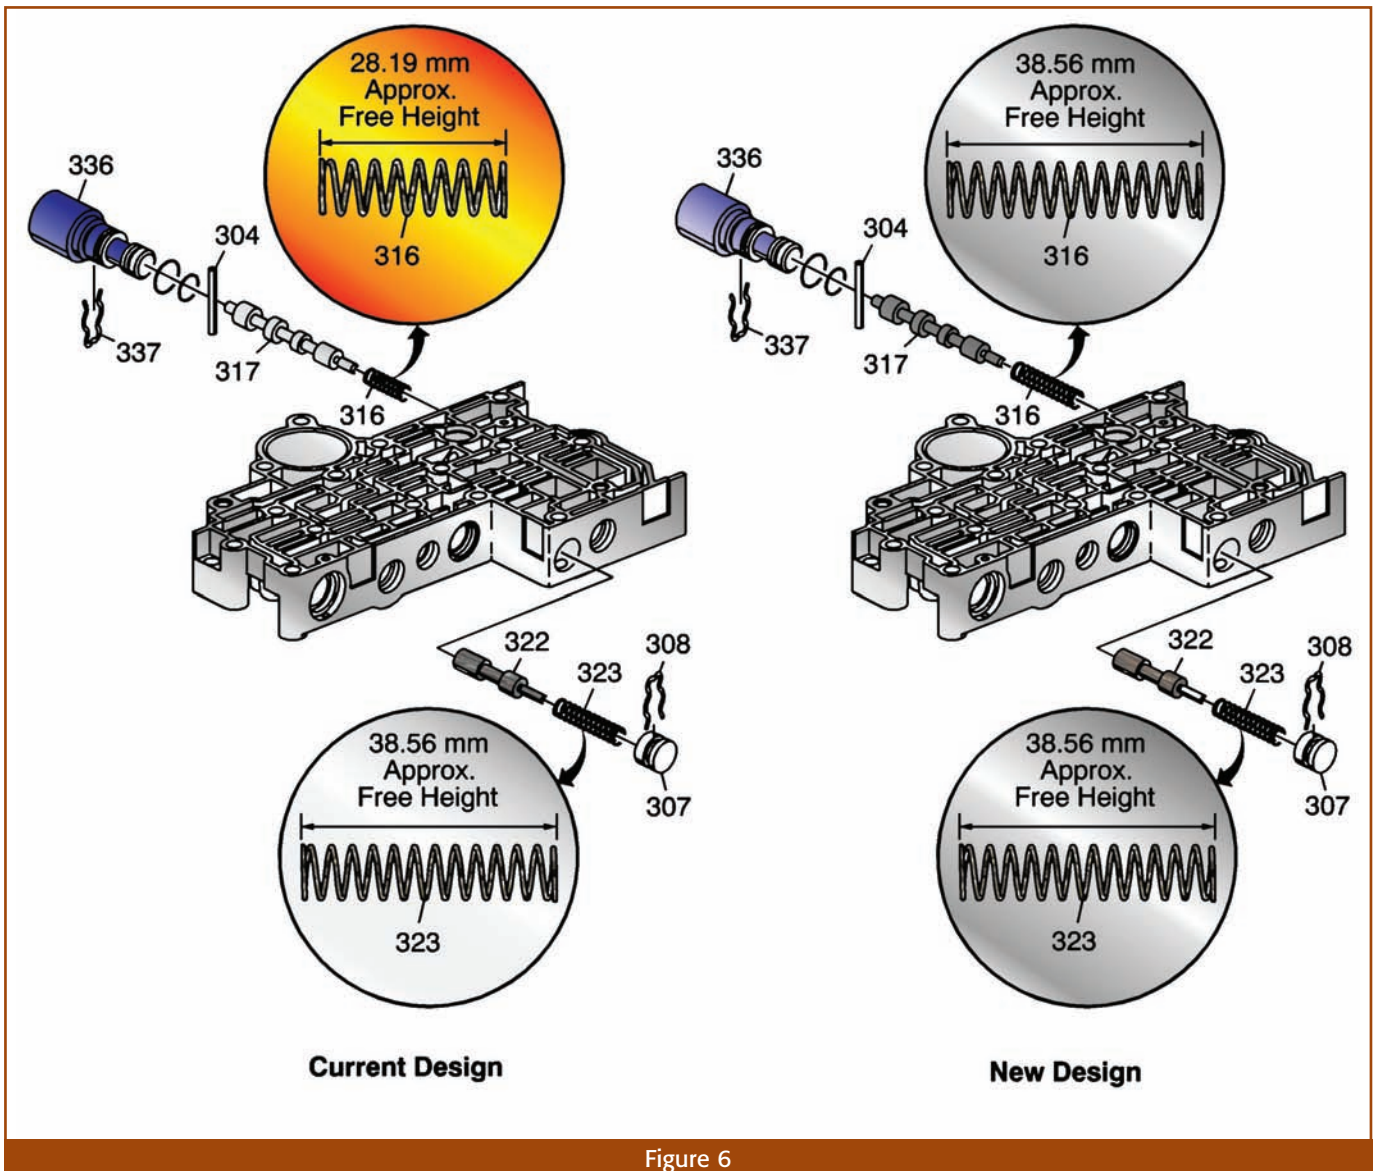

Figure 6
- A new converter clutch control valve spring and TCC enable spring (Figures 6 & 7).